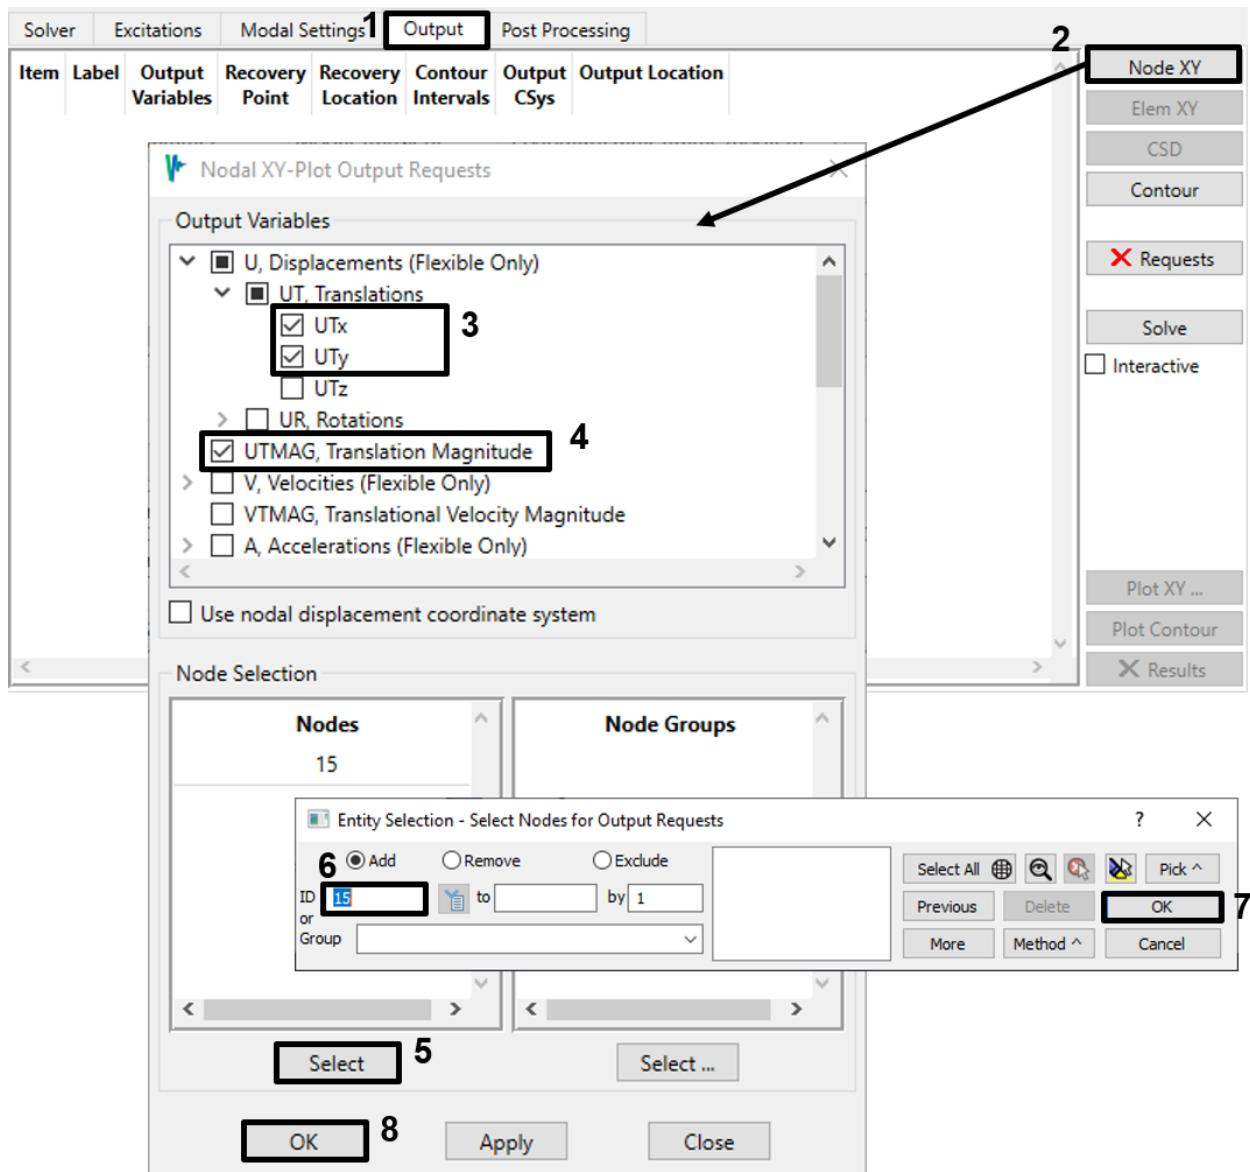

Figure 4-119. Request displacement plots for node 15.
7. Go to the *Output* tab. To get a measurement of the structure's movement over time, create Nodal XY Plot output request for X and Y displacements (*Utx*, *Uty*) and displacement magnitude (*UTMAG*) for node 15, as in Figure 4-119.